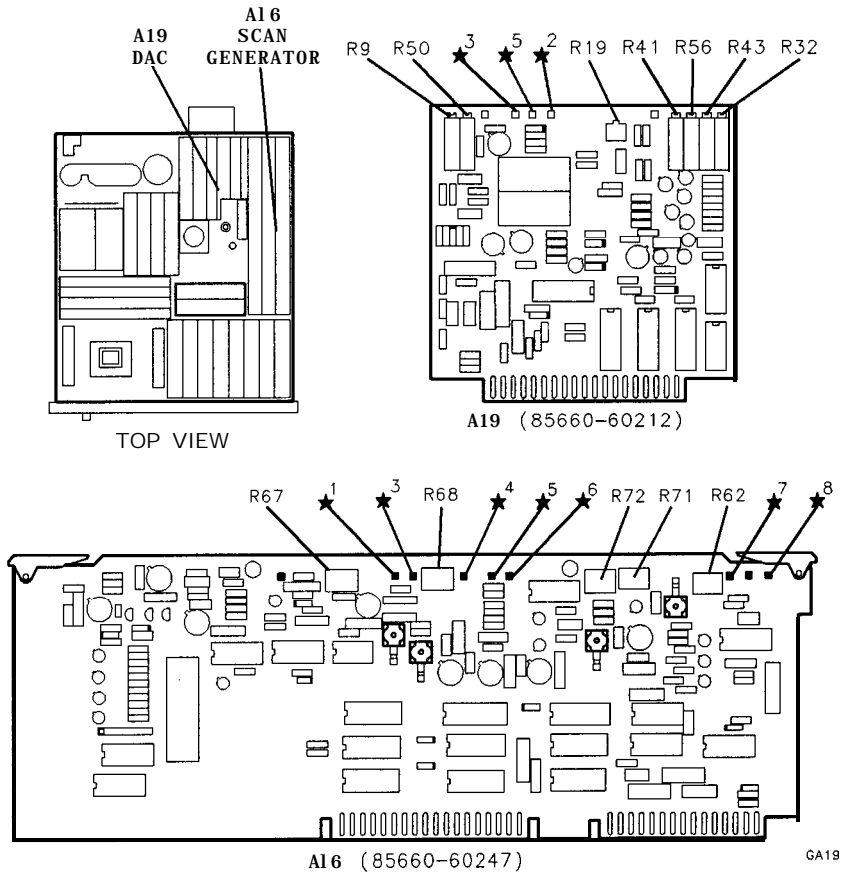

Figure 3-58. Location of Sweep and DAC Adjustments
9. Adjust A16R67 SWEEP TIME adjustment for counter time interval indication of 500 ± 1 ms. See Figure 3-58 for the location of A16R67.